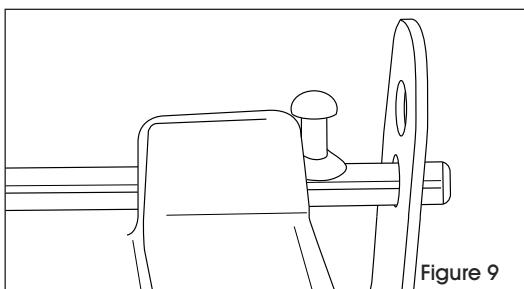

Figure 9
13. When pin clears bracket, push pin down and align hinge bar in bracket hole. Let hinge bar slide into bottom bracket hole. (See Figure 9)